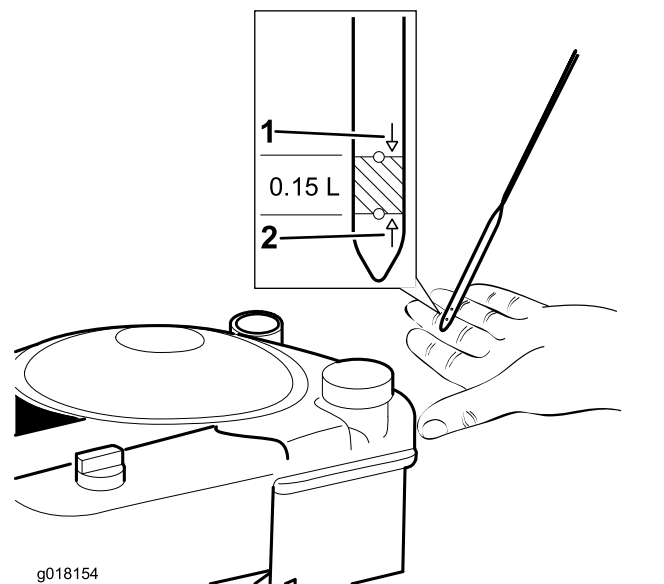

Figure 17
2. Remove the dipstick and wipe it with a clean cloth (Figure 17).
4. **Slowly** pour oil into the oil fill tube, wait 3 minutes, and check the engine-oil level on the dipstick by wiping the dipstick clean and then inserting it into the tube (Figure 17).
5. Fill the engine with oil until the dipstick indicates that the engine-oil level is correct as shown in Figure 17. If you overfill the engine with oil, remove the excess oil.